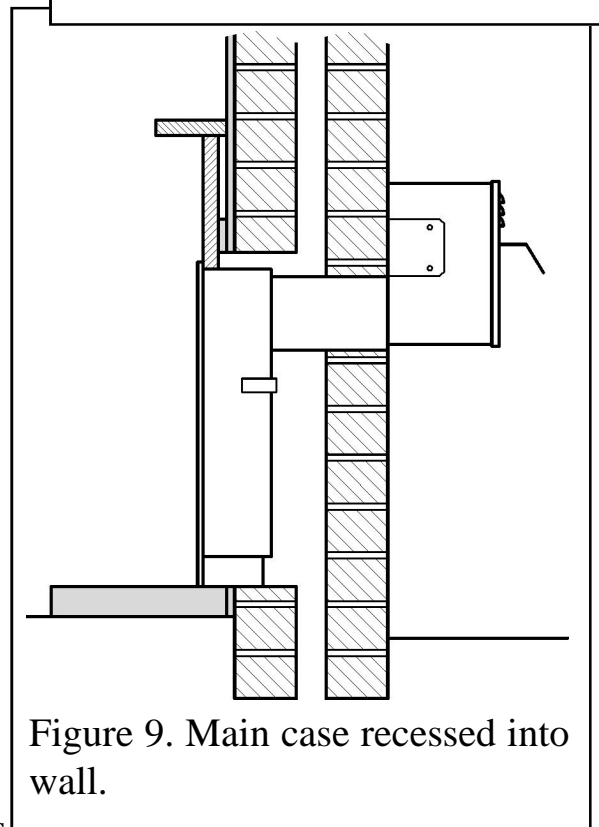

Figure 9. Main case recessed into wall.
7.3 Brick, stone etc. building. Main case recessed into wall. (Figure 9)